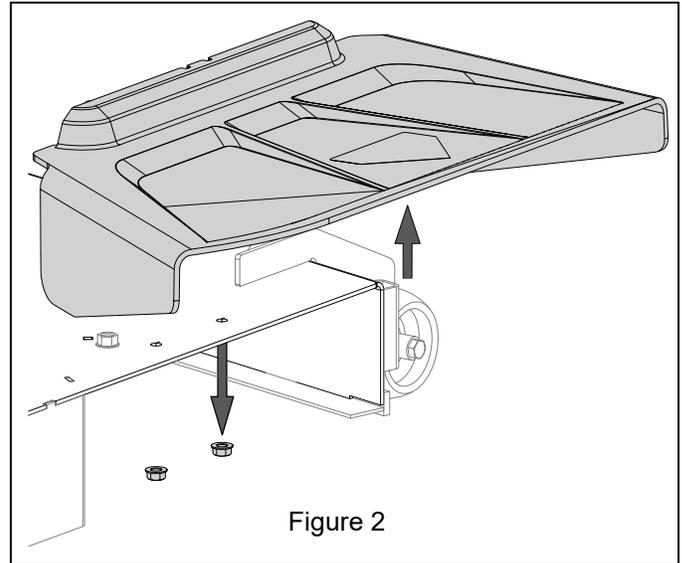

Figure 2
4. Remove and retain 5/16" nylon locking hex nuts retaining discharge chute assembly. Remove discharge chute assembly. Retain all parts for operation without mulch kit. See Figure 2.